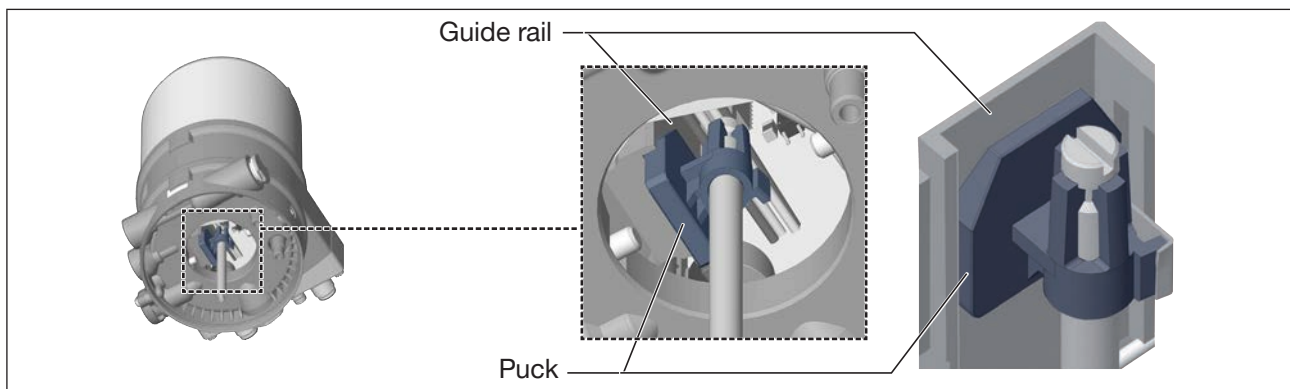

Figure 19: Aligning the puck
- Place Type 8692/8693 onto the actuator. In doing so, align the puck of the actuator with the guide rail of Type 8692/8693 (see “Figure 19”).